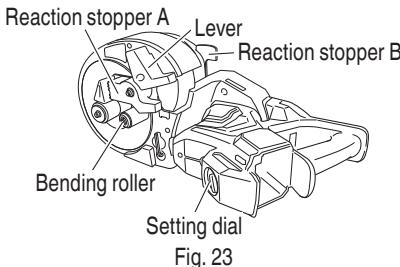

Fig. 23
- (1) Position the tool as shown in Fig. 23